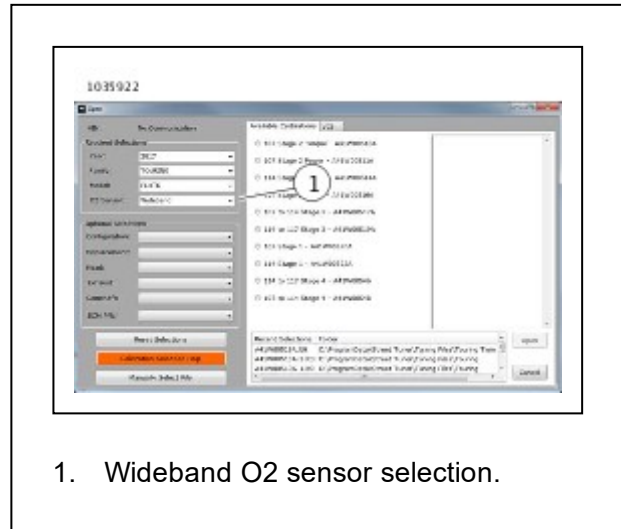

Figure 21. Wideband O2 Sensor Selection
22. See **Figure 21**. Use Screamin' Eagle Pro Street Tuner to complete installation. Download new ECM calibration when installing this kit. When selecting a calibration to download with the Screamin' Eagle Pro Street Tuner, select Wideband (1) from the pull down menu for the O2 Sensor option. Refer to the Screamin' Eagle Pro catalog or contact a Harley-Davidson dealer for Screamin' Eagle Pro Street Tuner details.